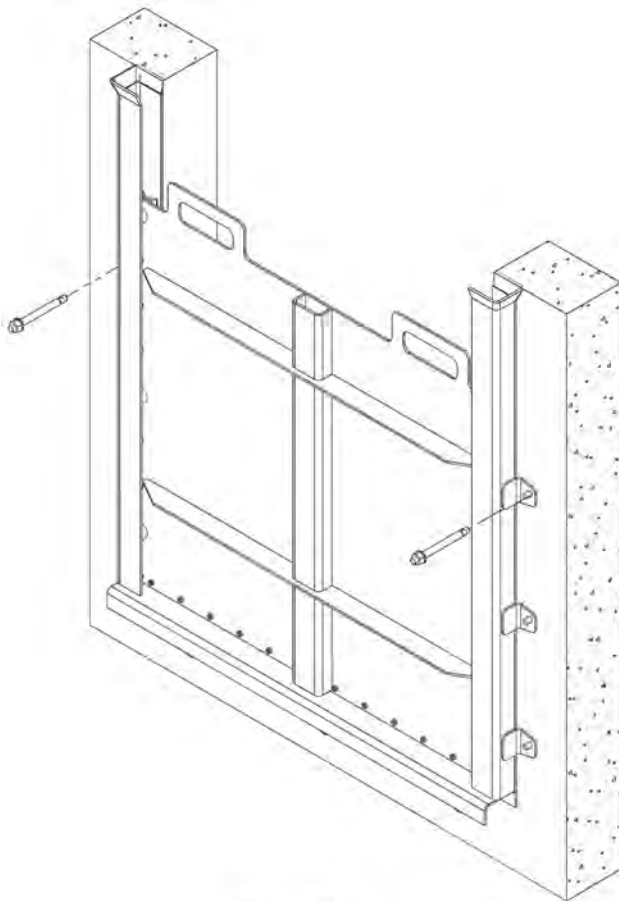

Figure 12
- Drill and install an anchor bolt on each side of the gate. After installing the first anchor bolt, and prior to drilling the hole on the other side, make sure the frame is perfectly leveled (see Figure 12).